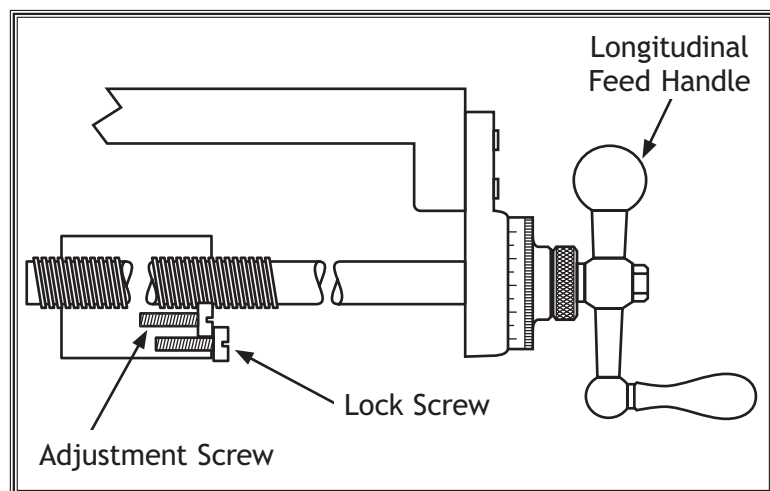

Figure 54. Longitudinal backlash adjustment.
2. Loosen the lock screw 1/2 a turn (see **Figure 54**).
3. Slowly turn the longitudinal feed handle and gradually tighten or loosen the adjustment screw shown in **Figure 54** until a slight drag is felt in the handle. Tighten the lock screw to secure the adjustment.